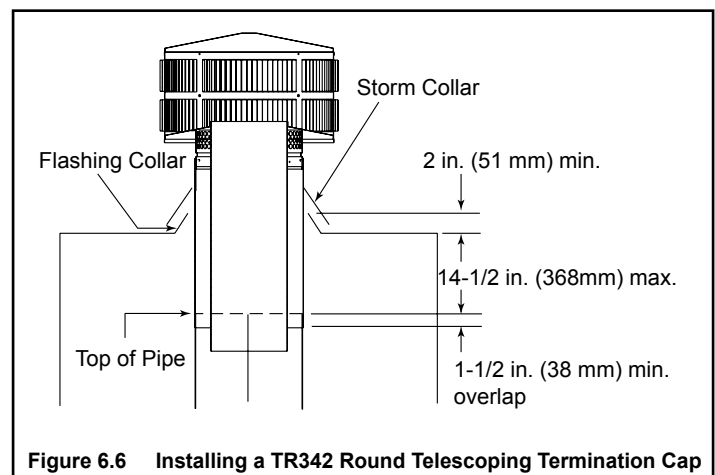

Figure 6.6 Installing a TR342 Round Telescoping Termination Cap
- For installations utilizing a TR342 Round Telescoping Termination Cap, the uppermost chimney section must be below the top of the chase top, but not more than 14-1/2 in. (368 mm) below the top of the chase top. Minimum overlap of chimney and termination cap must be 1-1/2 in. (38 mm). See Figure 6.6.